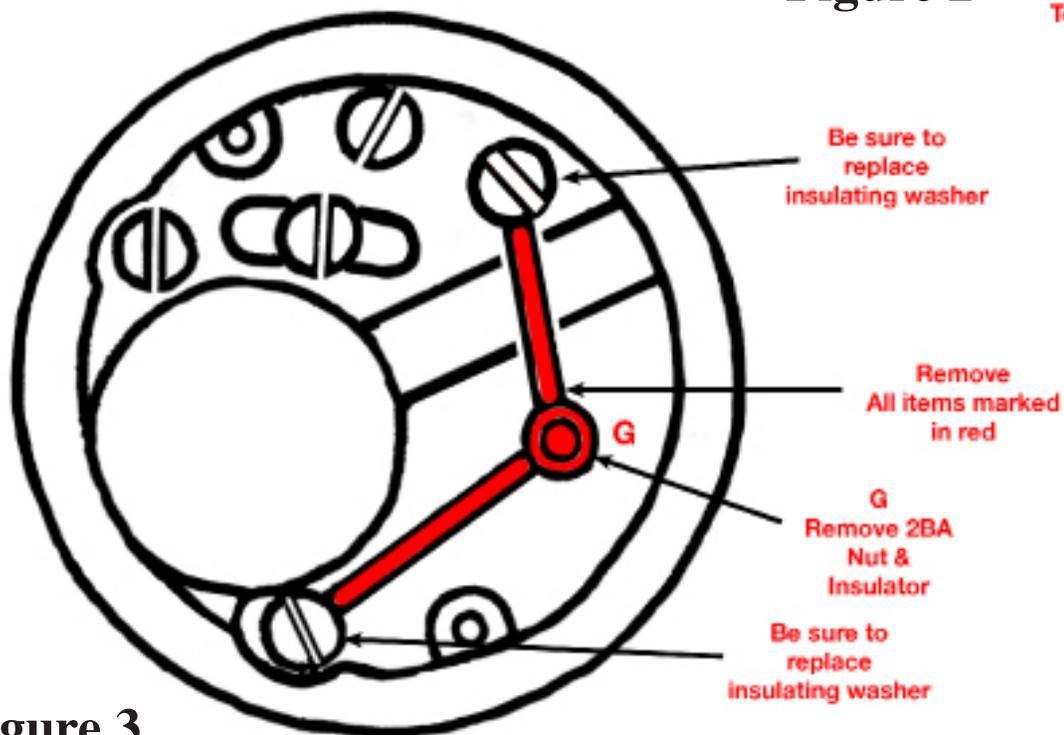

Figure 3
5. Remove the cut-out, and all the wires connected to it. Remove the B terminal as it will not be used. Disconnect the wire from the relay to terminal "F". Turn the end plate over (Figure 3) and remove the 2BA nut from "G" shown on figure 3. Be careful to save the small insulating washer under the strips.